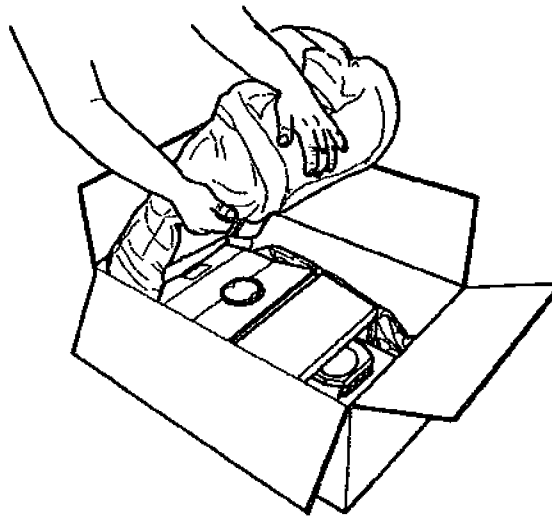

Fig. 19
25. Remove the planer from the big box, as illustrated in Fig. 19. Set it on a flat, stable surface.